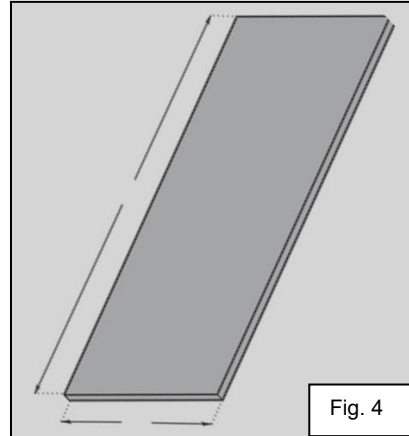

Fig. 4
6.3. Apply the adhesive to the back of the panel. Always keep adhesive 1/8" away from all edges. See fig. 4.